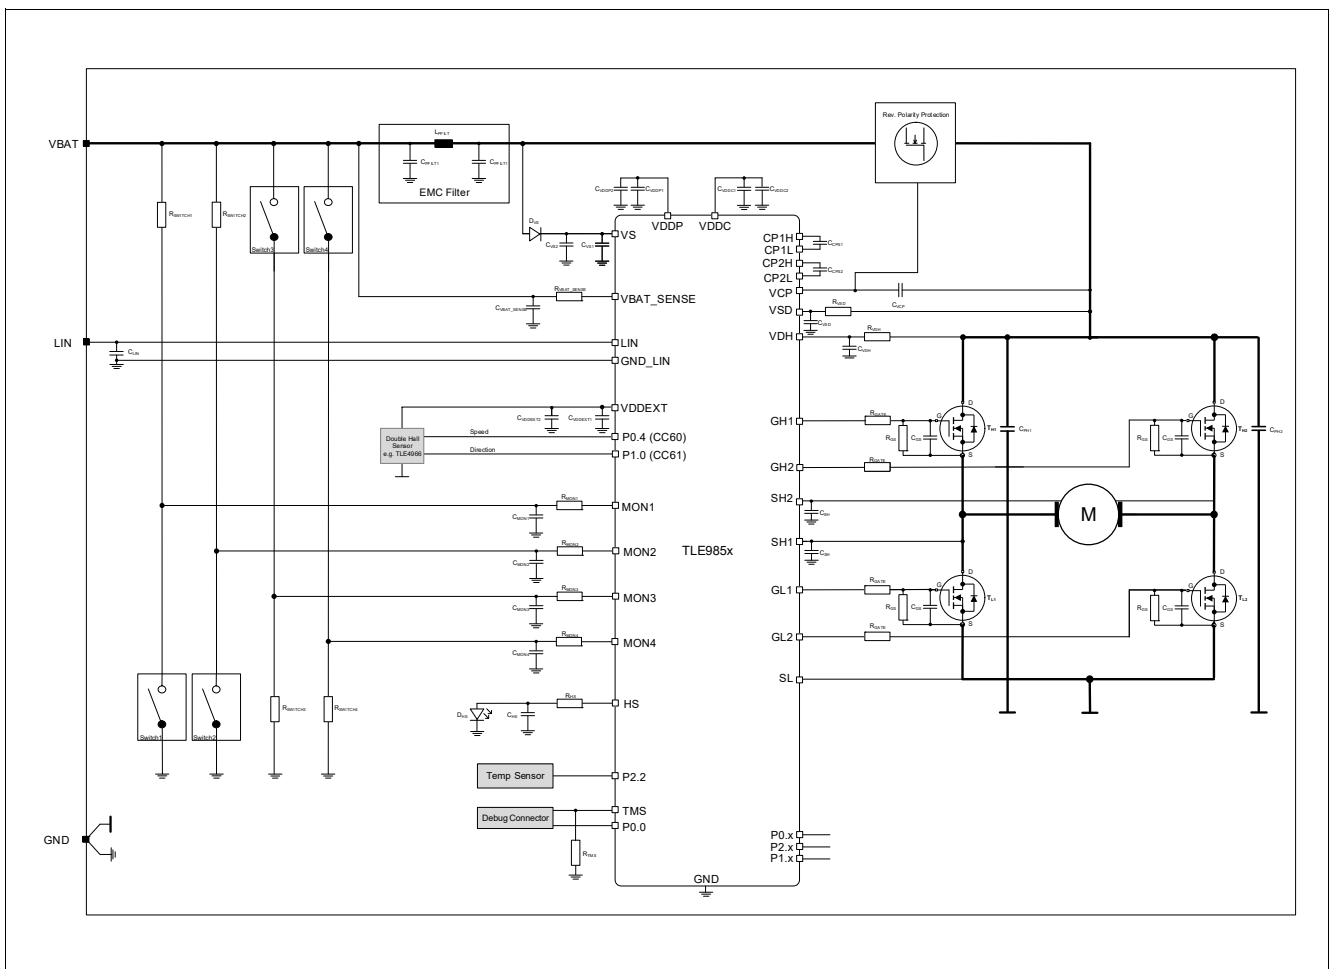

Figure 40 Simplified Application Diagram Example
- 2) With external circuit as shown in Figure 40.